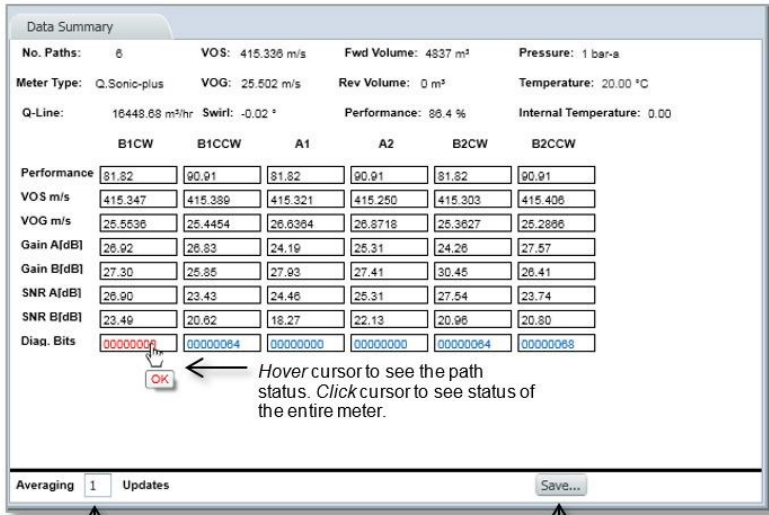

Figure 10-2 Data summary
In the bottom right-hand quarter of the window all relevant data and measurements are summarized in a chart for each of the six paths. By default, the chart will show “Averaging 1 Updates”, which is not an average, but rather the live results updated every two seconds. If you wish to adjust this and see an average of 5, 10, etc. updates, type the desired number in the averaging updates box. For example, “Averaging 5 Updates” will show the average of the results of the past 10 seconds. Please see Figure 10-2 for a closer view.
Therefore, when saving a file, if you choose **Averaging [5] Updates** it will save the results over a period of ten seconds. Please see Figure 10-2.
- ▶ Press the **Save** button in the bottom right-hand corner of the data summary window. (Figure 10-2)
Hover the cursor over the blue **Diag. Bits** (Diagnostic Bits) field to see a quick status update. (The red **OK** in Figure 10-2)